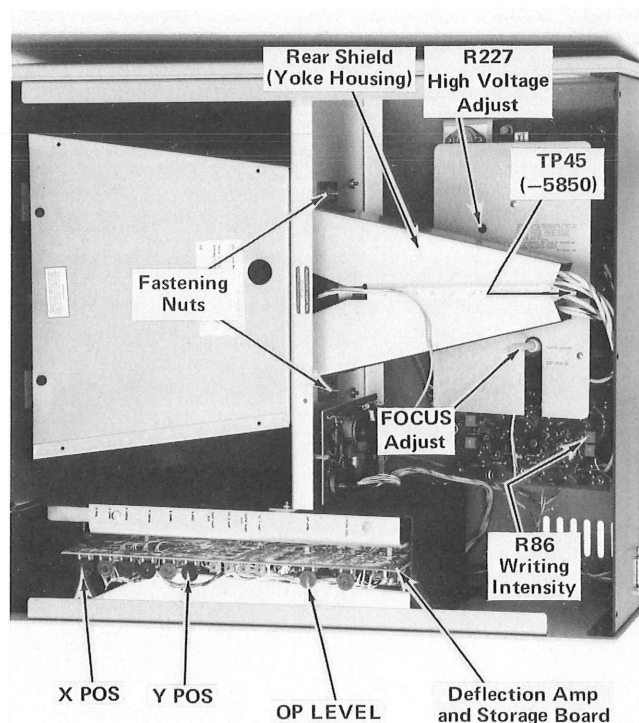
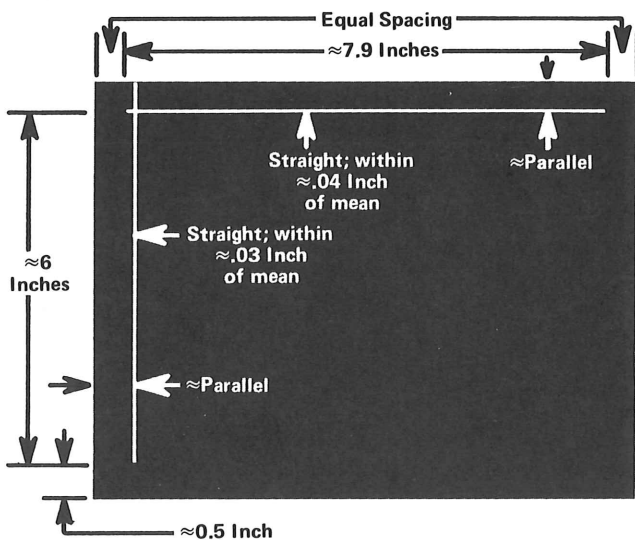

Fig. 4-6. High Voltage Adjustments and Test Points.
Fig. 4-8. Display Positioning, using Cross-hair Cursor.
a. With the Terminal off, set the voltmeter to read -5850 V DC and connect it to TP45 on the High Voltage & Z Axis board in the back of the display unit. See Fig. 4-6.
c. After about one minute, press PAGE. Then check for -5850 V at TP45. Adjust R227, High Voltage Adjust (Fig. 4-6) as necessary to obtain that value. Use a non-metallic screwdriver to minimize the possibility of causing a short circuit.
Storage board, Fig. 4-6) fully counterclockwise. (OP LEVEL will be adjusted properly in a later step.)
f. On the High Voltage & Z Axis board in the back of the display unit, rotate R86 Writing Intensity (Fig. 4-6) to increase intensity until the Alpha cursor can be seen near the center of the display. Do not make the cursor any brighter than is necessary. If the Alpha cursor doesn't appear, R81 on TC-1 may be set to the wrong limit, or the Terminal may be in Hold status. (Press SHIFT to clear Hold status.)
g. Press PAGE. The cursor should move to the top-left corner of the display. If the cursor was viewable in step f, and now has moved entirely out of the viewing area, turn X POS fully counterclockwise and Y POS fully clockwise to bring the cursor back into view. X POS and Y POS are located on the top of the Deflection Amp & Storage board in the display unit. See Fig. 4-6.
h. Press PAGE and check for the momentary appearance of a dot at the bottom-left of the cursor position. The dot may appear just before the cursor comes back into view. Adjust R86 (Fig. 4-6) until a dim dot momentarily appears at the bottom-left corner of the cursor position after the erase cycle, as just described. Then readjust R86 just to the point where the dot no longer appears after an erase cycle. The cursor should still be visible.
j. Adjust FOCUS ADJUST on the High Voltage & Z Axis board in the display unit (Fig. 4-6) to obtain a reasonably focused cursor. (Final focusing will be done later in the procedure.)
d. Check display positioning. It should meet the following requirements (see Fig. 4-8):
e. If lines are excessively long, set X GAIN and/or Y GAIN fully counterclockwise. (These, and other display adjustments are located on the top of the Deflection Amp & Storage board in the display unit. See Fig. 4-6. Use Fig. 4-8 as a display reference.)
(1) Adjust X POS for approximate left-right centering of horizontal line.
(2) Adjust Y POS to approximately center the vertical line segment described by its lower end and the point of intercept with the horizontal line (vertical thumbwheel at upper limit).
(3) If necessary, rotate the neck shield or yoke-mounting bracket (depending on assembly type) to obtain approximately equal spacing between the ends of the horizontal line and the top edge of the display area. Two nuts hold the yoke housing in place behind the center divider in the display unit (Fig. 4-6). Final adjustment and tightening of the yoke housing is done in a later step.
(4) Adjust X GEOM for approximate straightness of the vertical line; vertical line to be positioned as close to the left edge of the display area as possible by using the horizontal thumbwheel.
(5) Adjust Y GEOM for approximate straightness of the horizontal line, with the vertical thumbwheel at its upper limit.
(13) If the Zs do not store, gradually increase the OP LEVEL setting (Top of Deflection Amp & Storage board in display unit, Fig. 4-6) while entering Zs until they do store. Do not set OP LEVEL any higher than necessary.
(14) Press PAGE and again enter four Zs.
(15) Enter ESC and CTRL Z. The Zs should remain and the crosshair cursor should appear.
(16) Using the horizontal thumbwheel, place the vertical line so that it passes through a Z.
(17) Check vertical gain. The distance from the bottom of the vertical line to the top of a Z should be approximately 6.0 inches. If it is not, adjust Y GAIN to compensate for the error. (Adjust the bottom of the